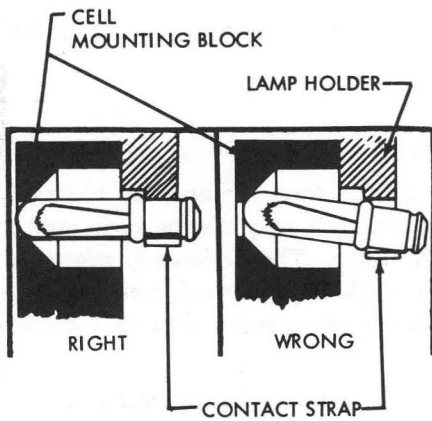

Figure 3-45. Solar Cell Lamp Position
7. Manually trip clutch; bring power up and hand crank read feed to a digit CB time (disk slot opposite solar cell). Crank machine slowly to avoid passing index points where meter deflection occurs. A minimum of 150 μa should be observed. Reposition and/or replace lamp or solar cell assemblies to obtain required output. See Figure 3-45. Return to Step 2 if lamp has been repositioned or replaced.
shifted. This will permit the lamp base to seat firmly in the holder with the lens end fully seated against hole in solar cell mounting block. Refer to Figure 3-45.